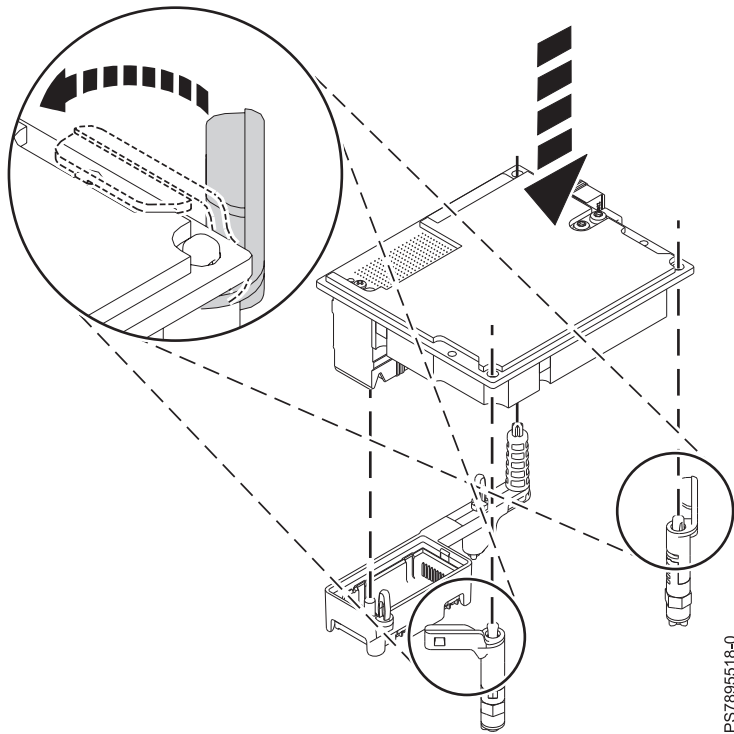

Figure 30. Installing a network adapter on its connector
5. Make sure that the slot's two blue release tabs are in the open position, as indicated in Figure 30 on page 63.